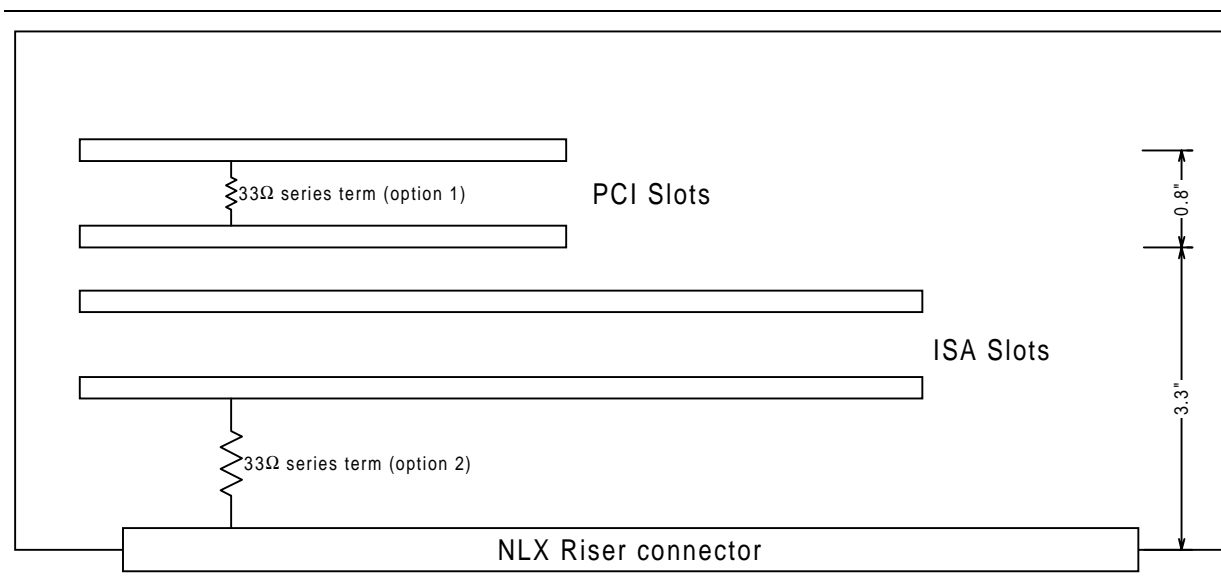
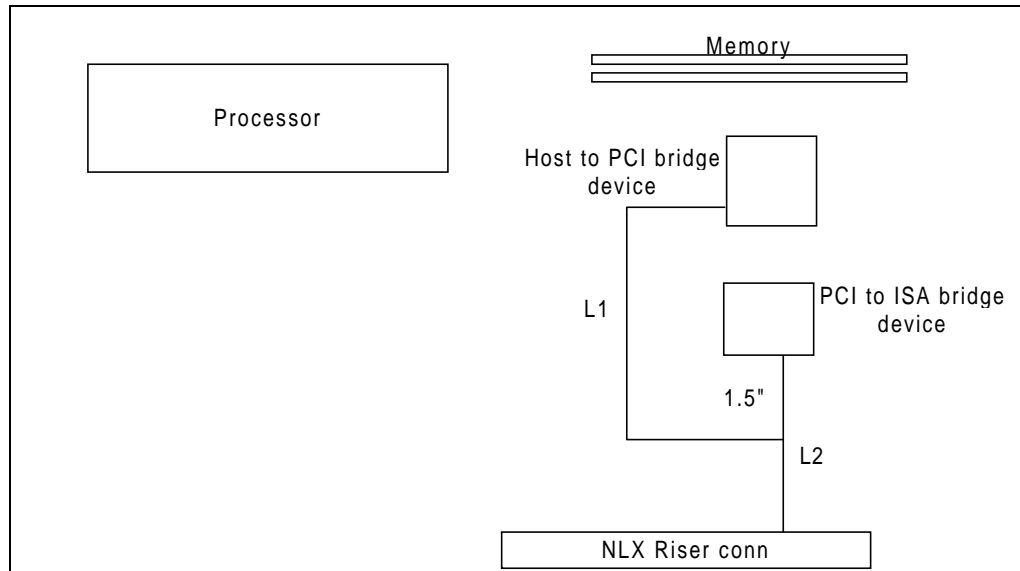
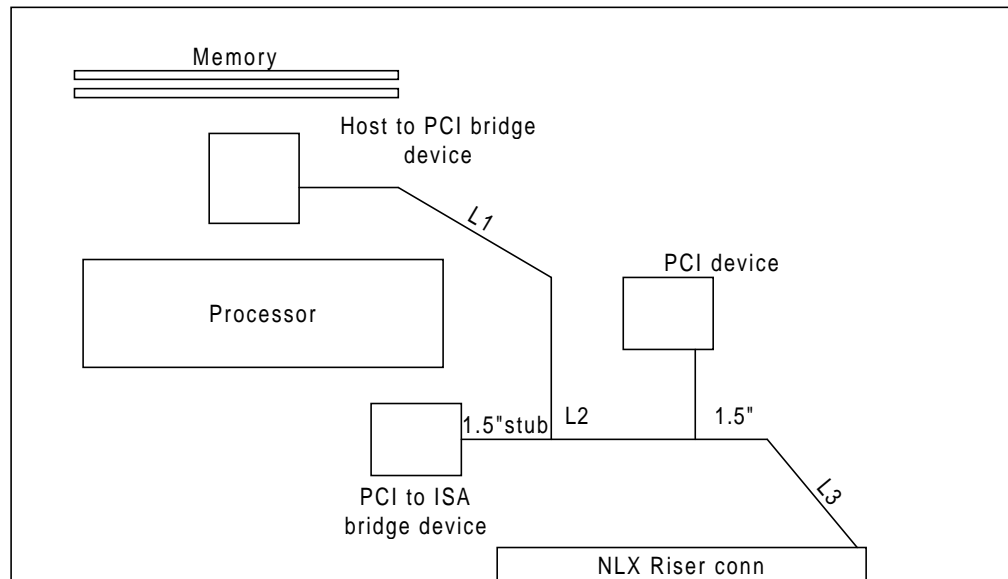

Figure 1: Riser Card Layout for Simulation Exercise
Figure 2: Motherboard "End to End" Layout
Figure 3: Motherboard "Face to Face" Layout
End to End—A motherboard layout where the processor and DIMM memory are placed so that their ends are closest together (see Figure 2: Motherboard "End to End" Layout).
Face to Face—A motherboard layout where the processor and DIMM memory are placed so that their sides are closest together (see Figure 3: Motherboard "Face to Face" Layout).
As defined in the NLX specification, the PCI bus should be terminated on the riser¹. This is determined to be optimal from PCI bus simulations. This section summarizes how the PCI bus was simulated in an NLX system. Figure 1 shows the riser card layout that was used in the simulation exercise. Figure 2 represents the topology for end to end layout, and Figure 3 for face to face layout. See the next section for the simulation results and recommendations.
End to end layout (Figure 2): The results from the simulation show that with typical riser implementations, this layout cannot be achieved without termination. Without termination, the maximum line length for L1 in Figure 2 is 4.0", and the maximum line length for L2 is 1.5". Two reflections affect flight times. The initial incident reflection occurs between 7 and 10ns and causes as much as 2.0v of ring back. A second reflection occurs between 14 and 17ns, resulting in reflections up to 1.0 V. For most line lengths, the second reflection is close to the threshold of 0.8 V. The L1 and L2 line lengths are very sensitive to the second reflection, thus requiring the use of series termination.
- Series termination between the PCI slots is found to be effective (Figure 1, option 1). Simulations show that the maximum L1 length can be increased to 6.0" and L2 length to 1.5".
- For best results, use a 33 ohm series termination between the NLX riser connector and first ISA slot (Figure 1, option 2). With termination used, the signal quality improves dramatically, rarely crossing the threshold. The maximum line length L1 could be increased to 8.0" and the maximum L2 line length to 2.5".
Face to face layout (Figure 3): The results from the simulation show that with typical riser implementations, this layout cannot be achieved without termination. Without termination, the maximum line lengths of the PCI bus are 5.0" for L1, 2.0" for L2, and 1.0" for L3. L3 is the critical length, because trace lengths above 1.0" will result in flight time violations. Also, signal quality shows a large reflection on the rising edge dipping to 1.8v, and rising to 1.5v on the falling edge. This occurs when the PCI-ISA bridge device is driving the PCI bus.
- Series termination between the PCI slots is not found to be effective for line length L3 (Figure 1, option 1). Even with termination between the PCI slots, the line length L3 is still held to 1.0", although flight times improved.
- For best results, use a 33 ohm series termination between the NLX riser connector and first ISA slot (Figure 1, option 2). With termination used, the maximum line length L3 could be increased to 4.0" with L1 at 7" and L2 at 2". Another alternative exists with L1 at 7", L2 at 3", and L3 at 3".